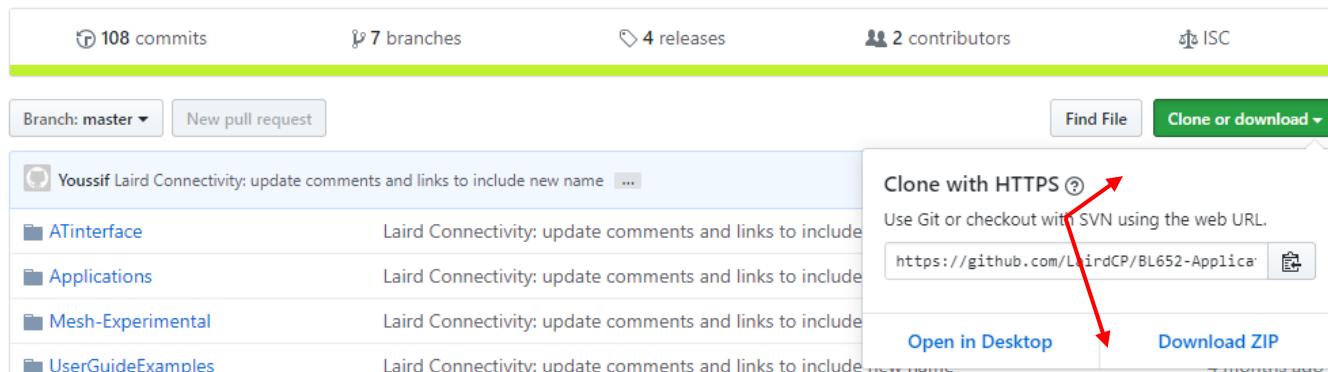

Figure 1: Github download
2. On the Github pages, click **Clone or Download** and select **Download ZIP**. Unzip/extract the files to a folder on your computer (such as C:\Laird\BL652) (Figure 1).